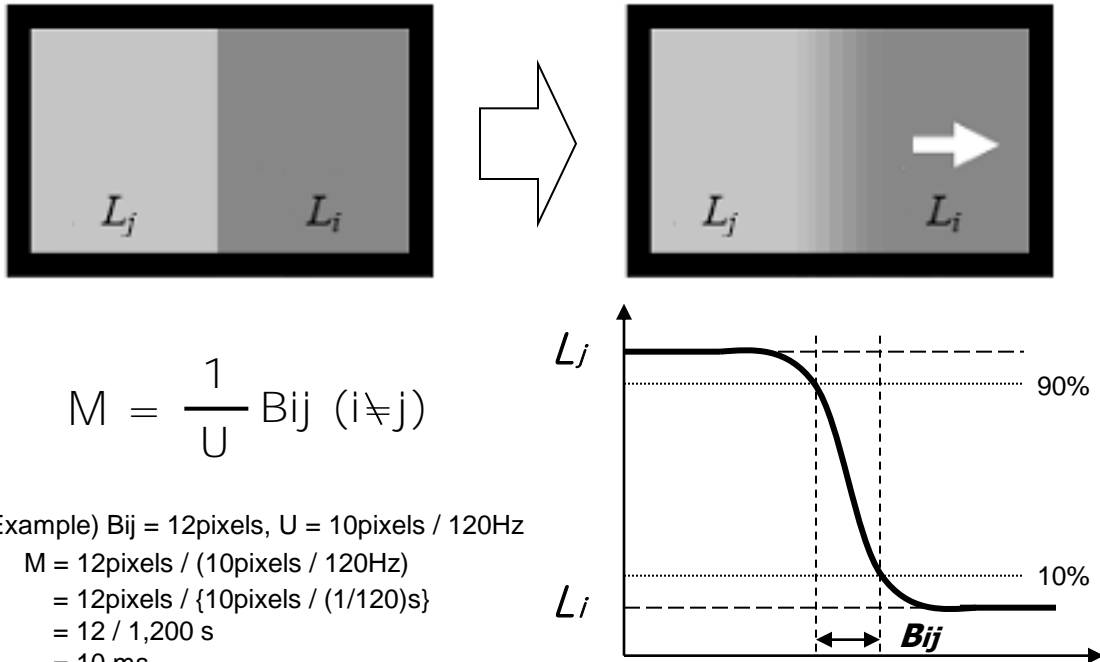

FIG. 4 MPRT
5. MPRT is defined as the 10% to 90% blur-edge width  $B_{ij}$ (pixels) and scroll speed  $U$ (pixels/frame) at the moving picture. For more information, see FIG 4